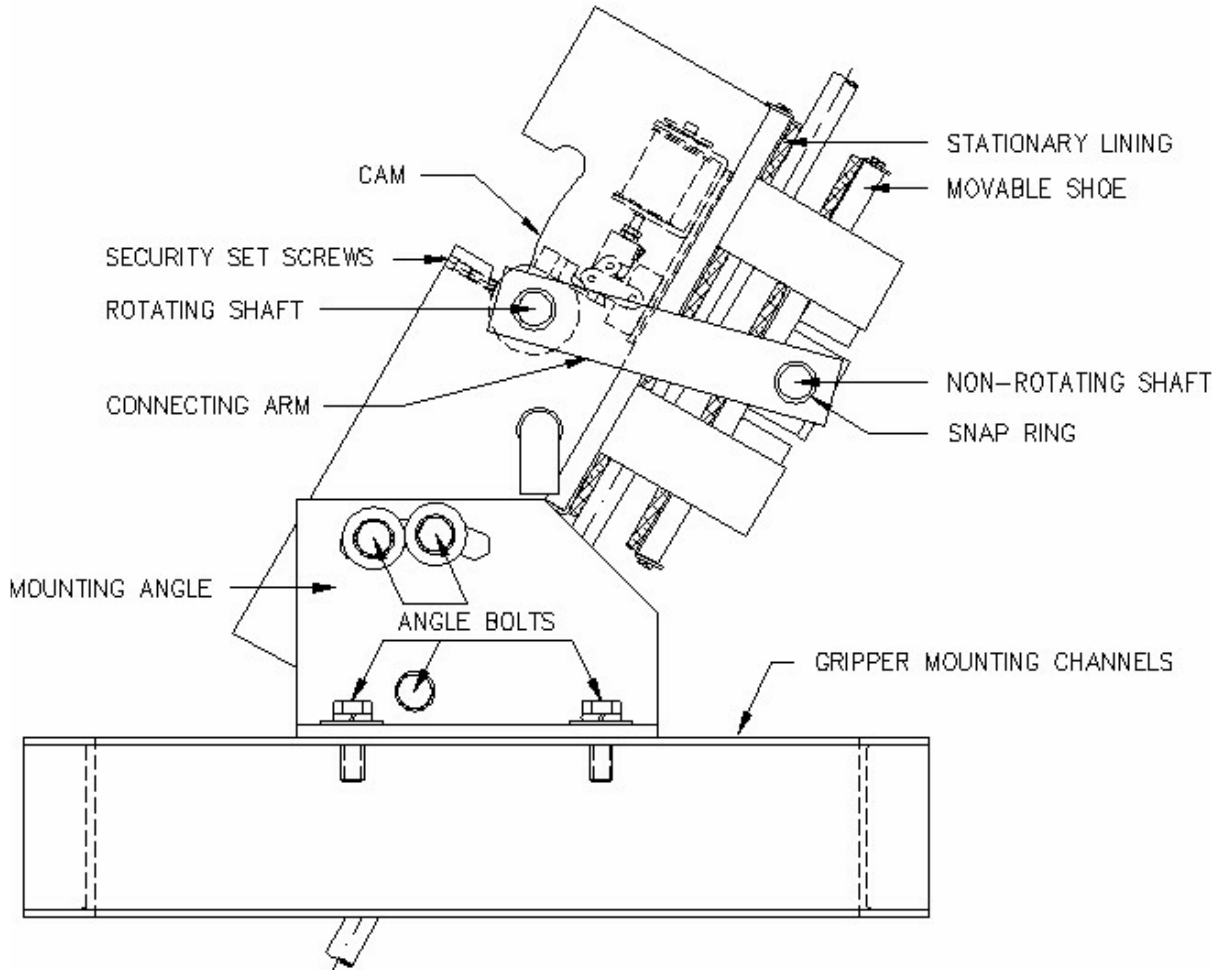
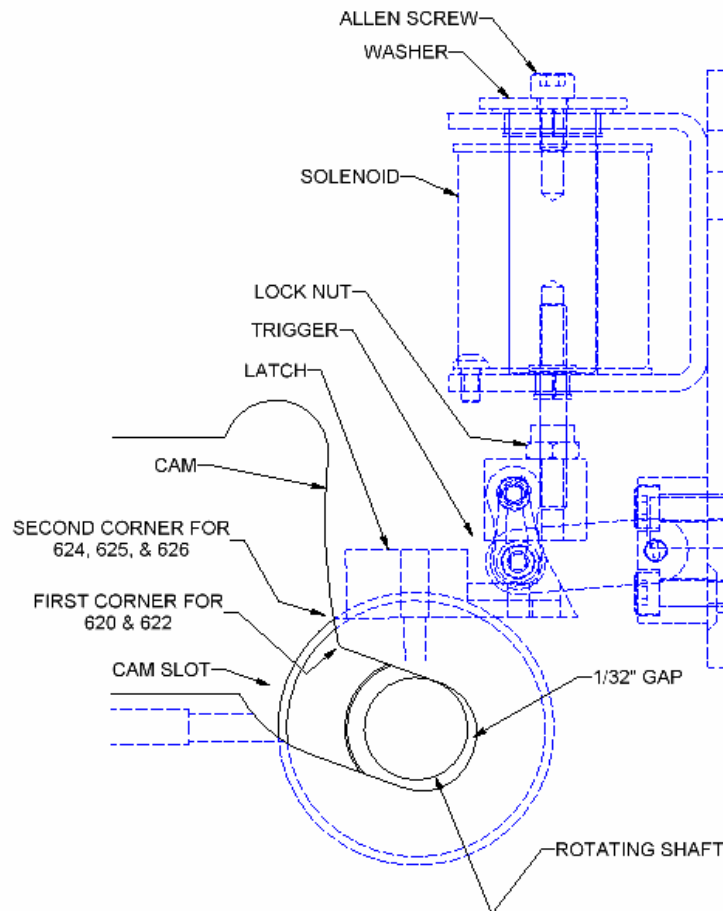

FIGURE 1
FIGURE 5
- Be sure security set screws are touching and holding the rotating shaft in the LOADED position as shown in **Figure 1** above.
- **A line has been marked on the side wall of the gripper** to aid in the Wear-In process. *Note that at this point in the procedure, this line is well above the Connecting Arm and will be met or covered by the Connecting Arm during the Wear-In process (see **Figure 1** for location of Connecting Arm).*
- As the linings wear-in, the rotating shaft will move up the cam slot and around the corner(s) of the cam noted above (**Figure 5**), and the connecting arms (see **Figure 1**) will move up the side wall and begin to match or line up with the wear-in line marked on the side wall.
Note: #624, #625, and #626 have **two** corners. These grippers are **not** worn-in until the rotating shaft goes past the **second** corner of the cam as noted above (see **Figure 5**) and the connecting arm meets or covers the line marked on the side wall.